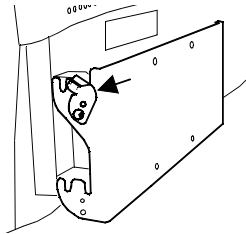

Figure 12
2. Slide back the locks at both sides of the mounting plate (figure 12). In that way, you can secure the panel to the mounting plate after placing the panel.